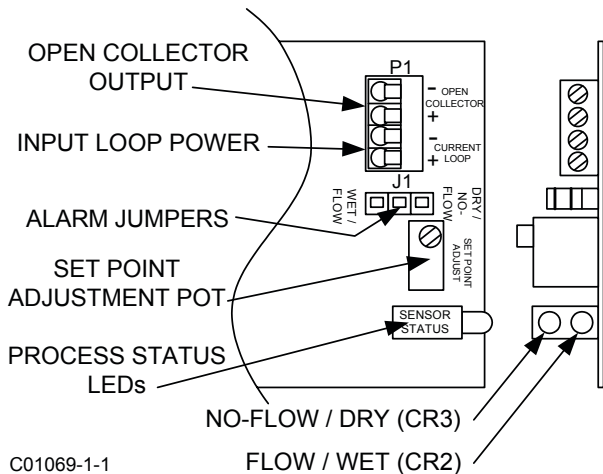

Figure 13 Loop Power Control Circuit
1. With the enclosure cover removed, slide the control circuit out half way to expose terminal block P1, Figure 13.
Set J1 to the *Wet/Flow* position. See Figure 13. With the sensing element at no-flow (or dry), turn the setpoint potentiometer (pot) to the point where the LEDs toggle back and forth (clockwise to turn on the top LED, CR3, and counterclockwise to turn on the bottom LED, CR2). Turn the pot one turn clockwise past the point where the top LED (CR3) turns on. Turn on the flow (or raise liquid level) and verify that the instrument switches to the alarm state when flowing (or wet).
Set J1 to the "Dry/No-Flow" position. See Figure 13. With the sensing element at flow (or wet), turn the setpoint potentiometer (pot) to the point where the LEDs toggle back and forth (clockwise to turn on the top LED, CR3, and counterclockwise to turn on the bottom LED, CR2). Turn the pot one turn counterclockwise past the point where the bottom LED (CR2) turns on. Stop the flow (or lower liquid level) and verify that the instrument switches to the alarm state when not flowing (or dry).